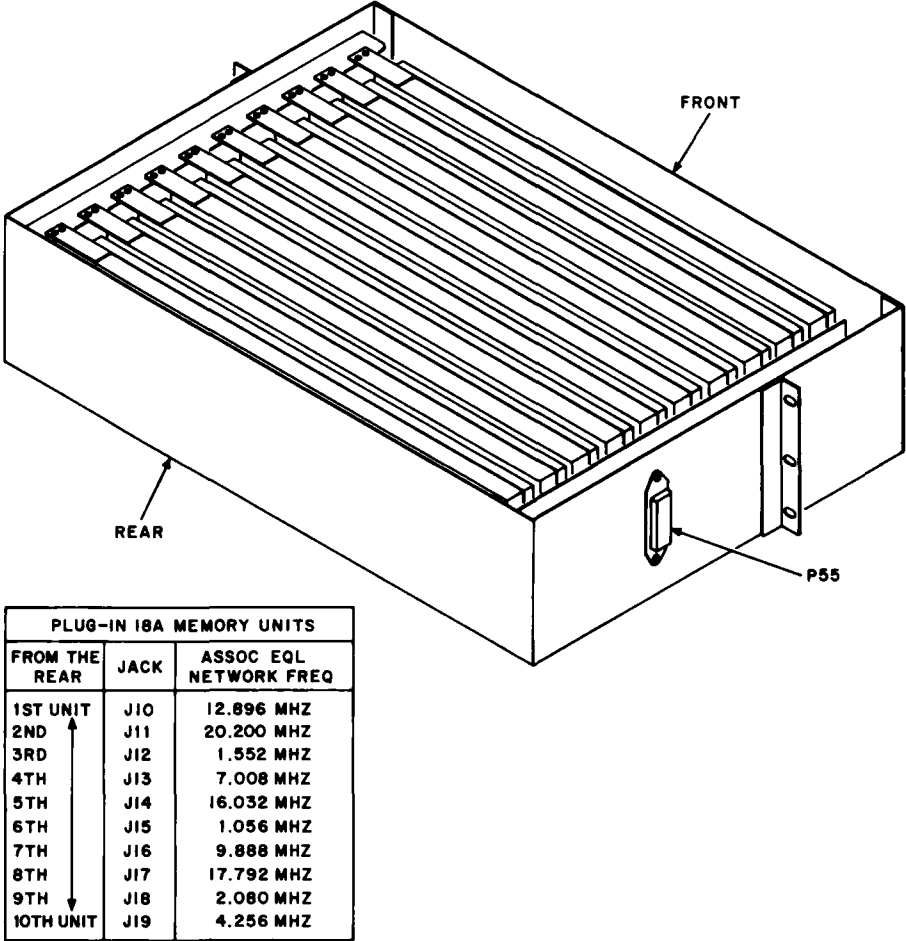

Fig. 13—B Equalizer Memory J68877AY
B. Memory J68877AY (Fig. 13)
Note: The memory (Fig. 13) contains an individual plug-in 18A memory unit for each of the ten B equalizer networks. Normally, only the faulty 18A memory unit is replaced. After replacement, a test is made via the control center.